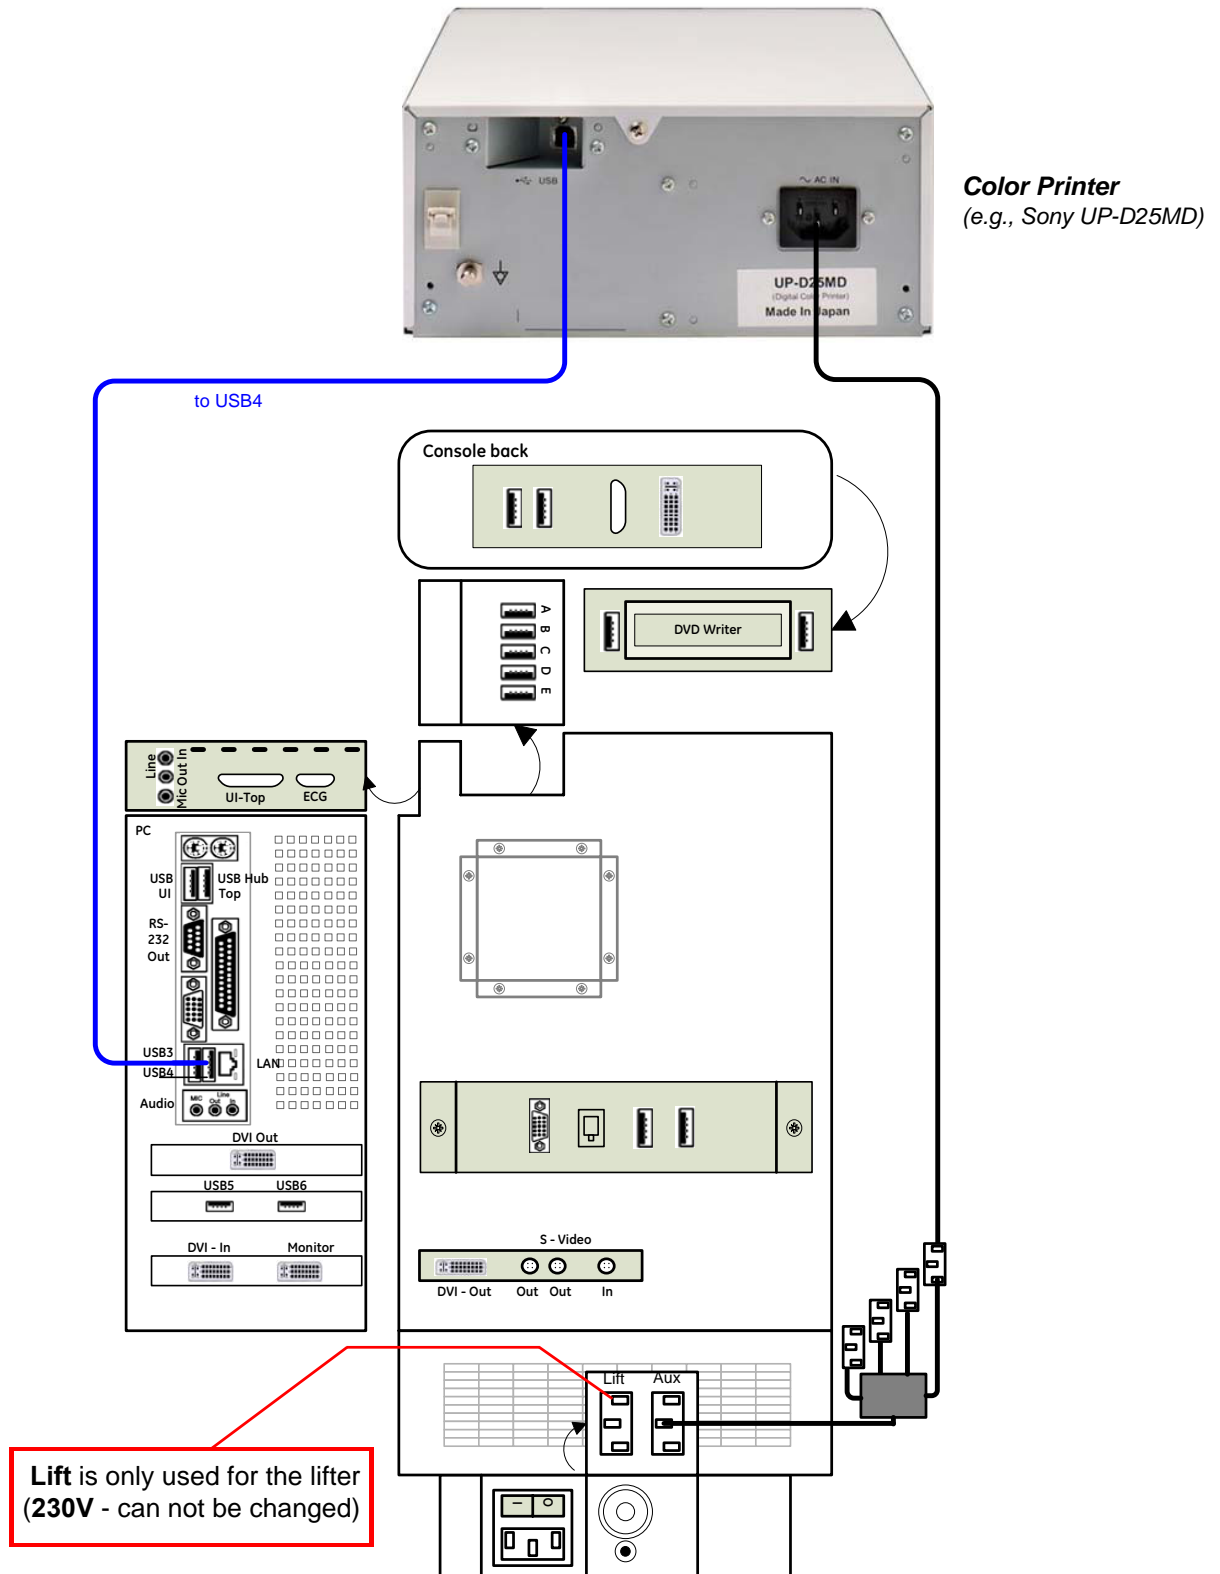

Figure 3-7 Color Printer connection
- 2.) Connect the Color printer according to connection scheme, see: Figure 3-7 on page 3-14